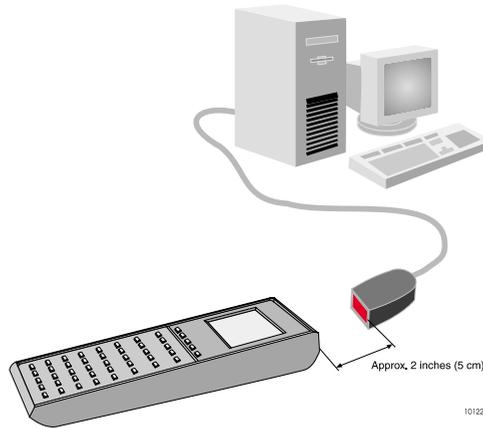

Figure 4.6. Setup for Transferring HP-48 Handheld D-Files
3. Align the IR ports within two inches of each other, and click **OK** (Figure 4.6).